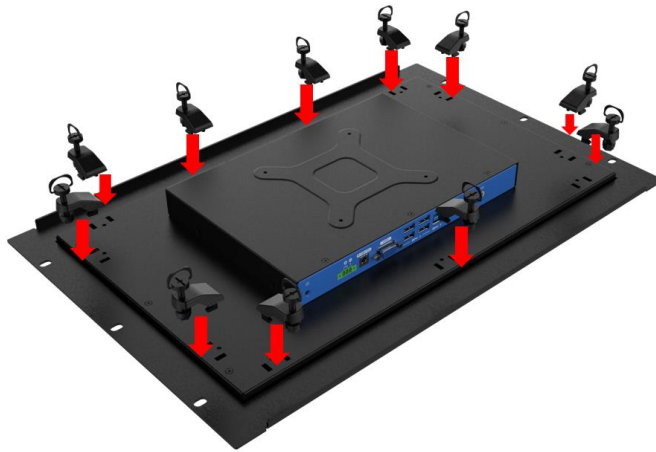

Figure 3-20: Secure the Mounting Clamp Holders
- Step 2:** Insert the panel mounting clamps into the pre-formed holes of the clamp holders (**Figure 3-20**).